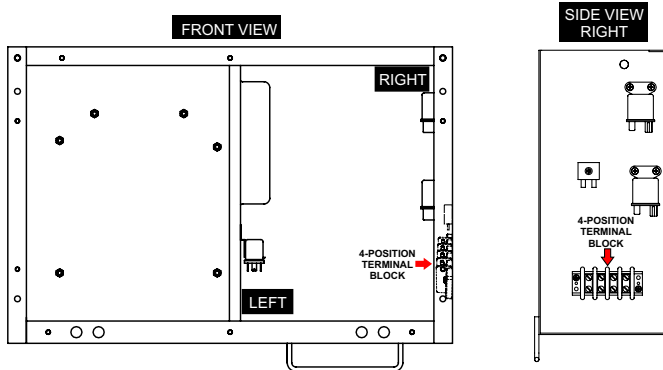

Figure 1. Terminal Block Location (Control Box)
1. Open the control panel door and locate the 4-position terminal block behind control panel on the **right-side** of the control box as referenced in Figure 1.
Figure 1 shows the location of the 4-position terminal block for the DCA25SSIU4F generator. This terminal block will be in a similar location for the remaining generators.